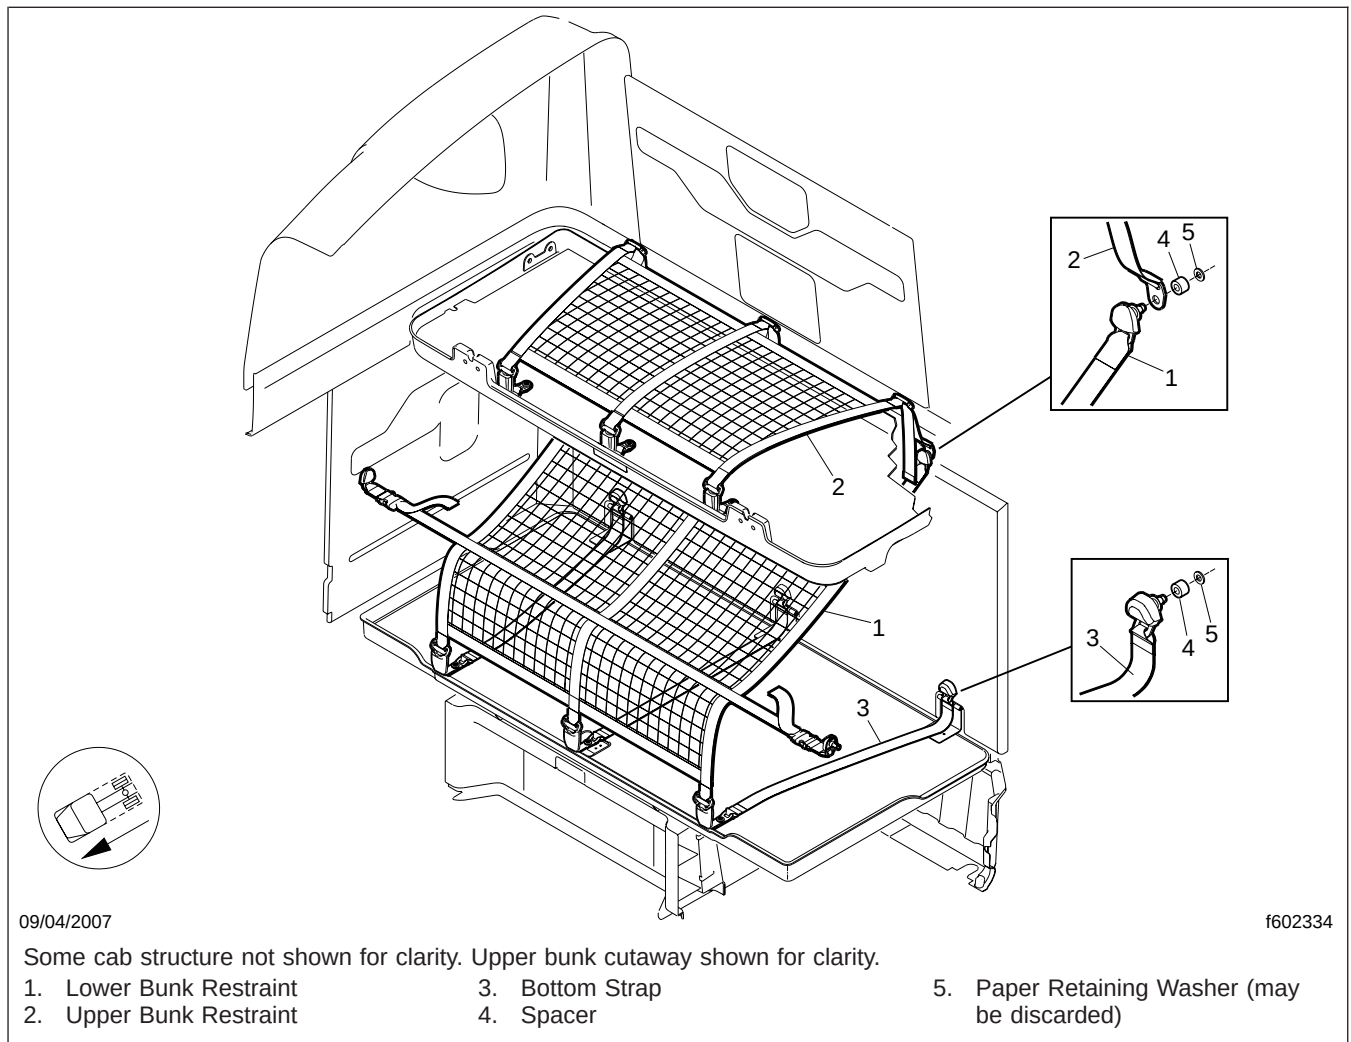

Fig. 1, Bunk Restraint Installation (raised roof with upper bunk shown)
4. Flip the bolt cover caps open, and remove the capscrews that attach the bunk restraint to the rear and side walls of the cab; see Fig. 1. Remove and discard the bunk restraint.